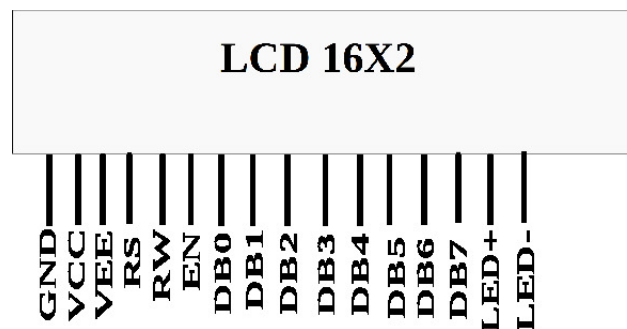

Figure 1: LCD pins
2. Refer fig:1 for the reference of LCD pins.